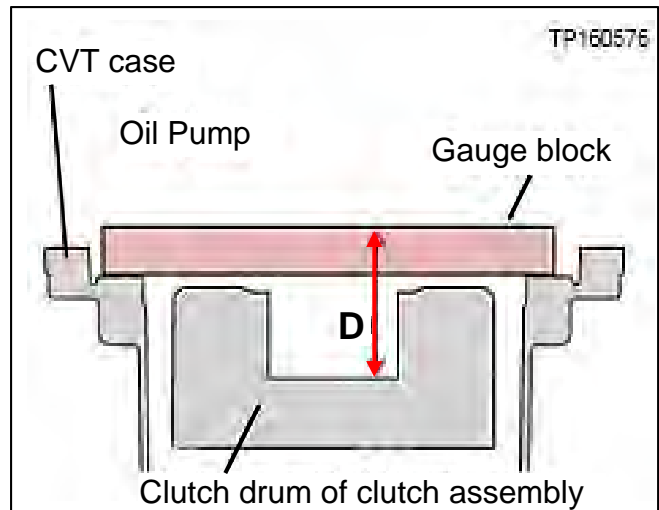

Figure 113
92. Calculate the average clutch assembly bore depth (**D**) (Figure 113) as follows: